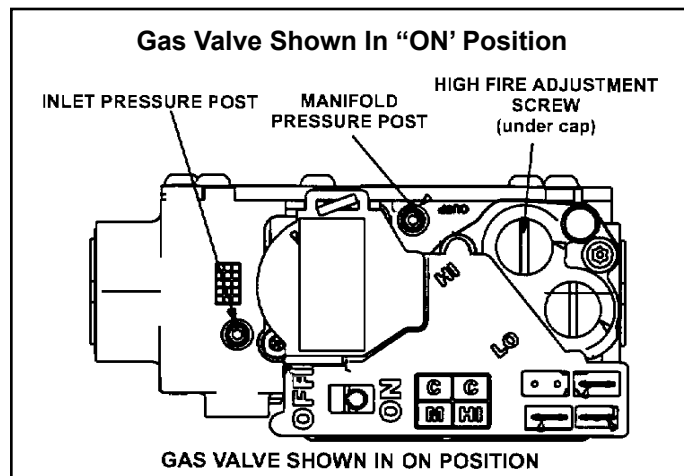

Figure 60.
6. Move gas valve switch to OFF. See Figure 60.
8. Move gas valve switch to ON. See Figure 60.
- A manifold post located on the gas valve provides access to the manifold pressure. See Figure 60. Back out the 3/32 Hex screw one turn, connect a piece of 5/16" tubing and connect to a manometer to measure manifold pressure.